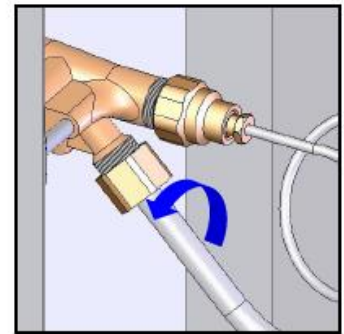

Figure 2
- Dismantle Radian Gas Supply Pipe-Valve Connection Sleeve (Figure 2).